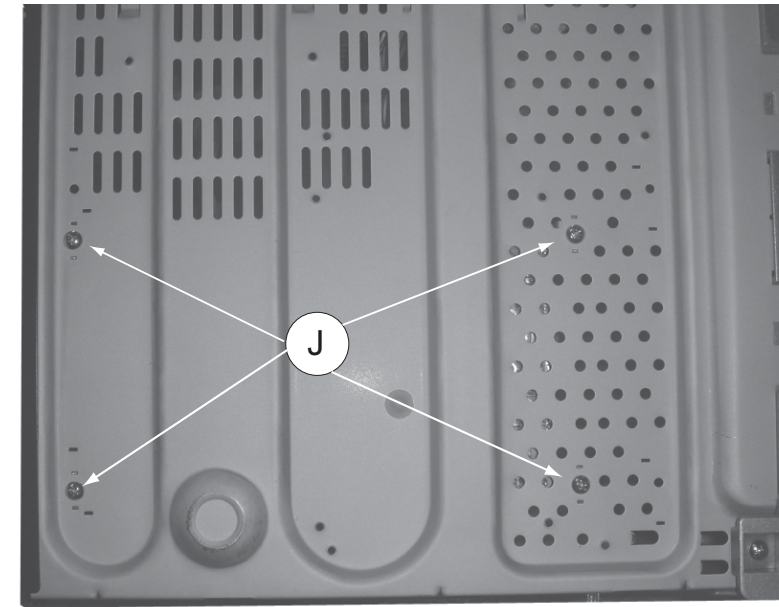

Figure 14
1) Loosen 4 screws 'J' to remove the Power Board figure 14.